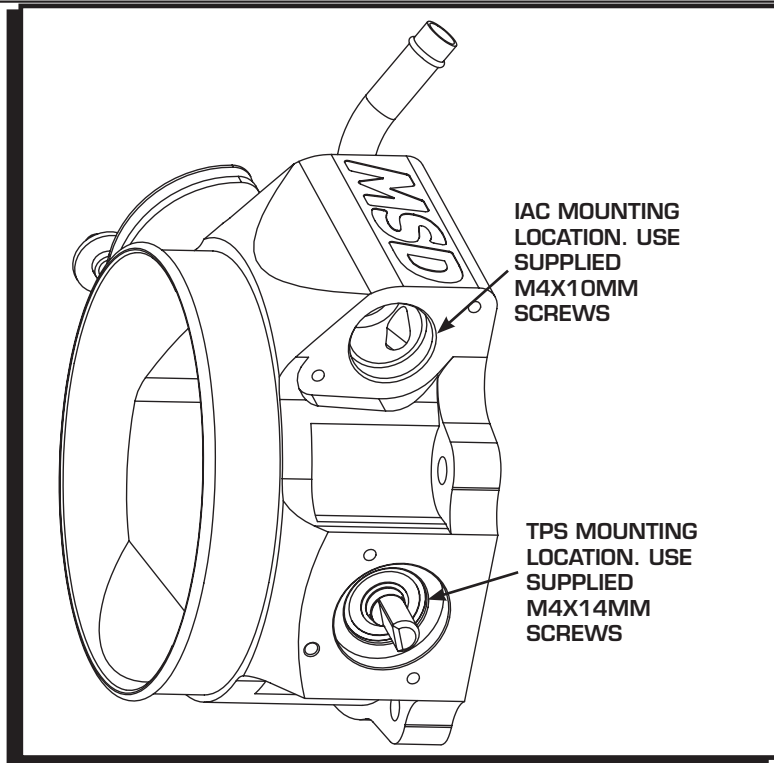

Figure 1 IAC and TPS Mounting Locations.
1. Install the TPS by inserting the D-shaped throttle shaft into the sensor assembly. Gently align the centering dowel and mounting holes. Use a drop of Blue Loctite on the M4x14mm screws and tighten the screws to 16-18 lb-in (Figure 1).
2. Locate the two M4x10mm screws to secure the IAC motor. Ensure the O-ring seal is installed on the IAC and put it in place on the throttle body. Use a drop of Blue Loctite on the screws and torque them to the bolts to 25-27 lb-in (Figure 1).